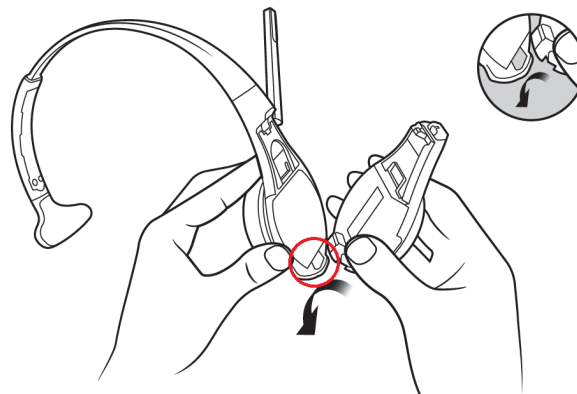

Figure 8.
2. Align Charging Contact Block on Control Pod into the Charging Contact Block Receptacle of the Headset Carrier. Once the Charging Contact Block is set into in the Receptacle, it will act as hinge or pivot point. See Figure 8.